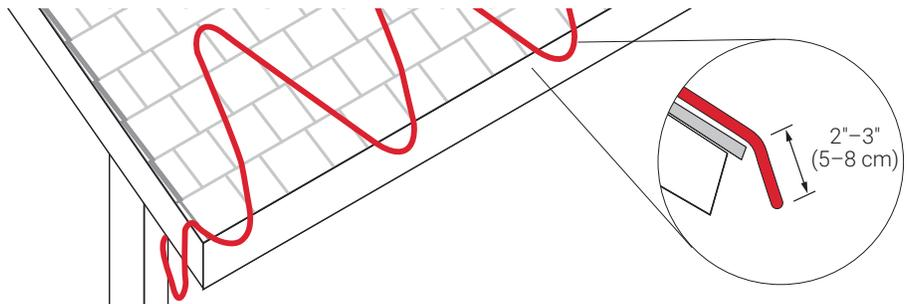

Figure 6 Layout for heated drip loops
Route the heating cable as shown in Figure 6 below and follow the appropriate attachment recommendations in Step 2. Additional heating cable may be needed for valleys.
- The drip loop must hang below the lip of the roof as shown in Figure 6.